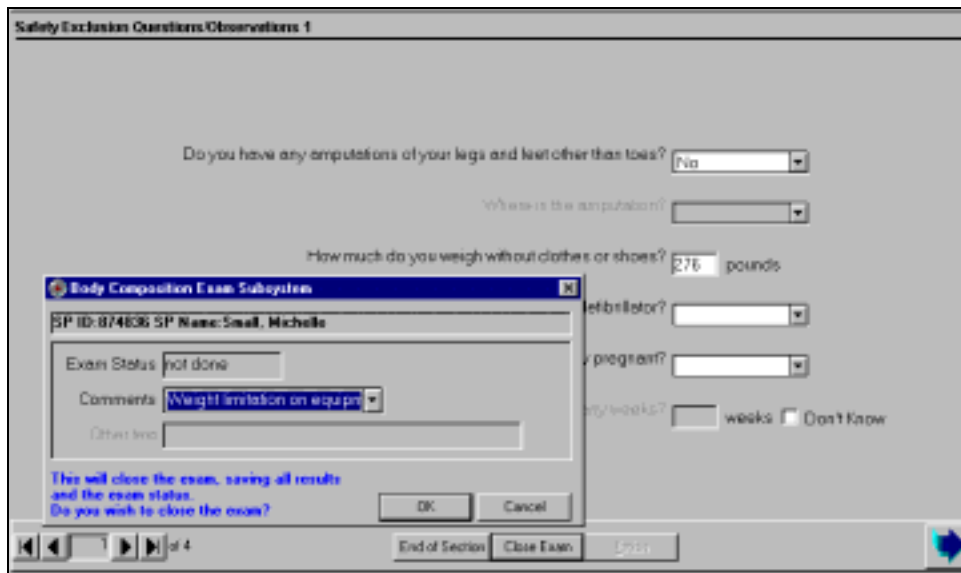

Figure 4-6. Shared exclusion questions (weight 2)
- Follow the directions in the message to end the exam. The SP is excluded due to weight restriction on the DXA table. When the remaining questions have been answered, press ‘Close Exam.’ Choose ‘Not Done’ with the comment ‘weight limitation on equipment.’ See Figure 4-6.